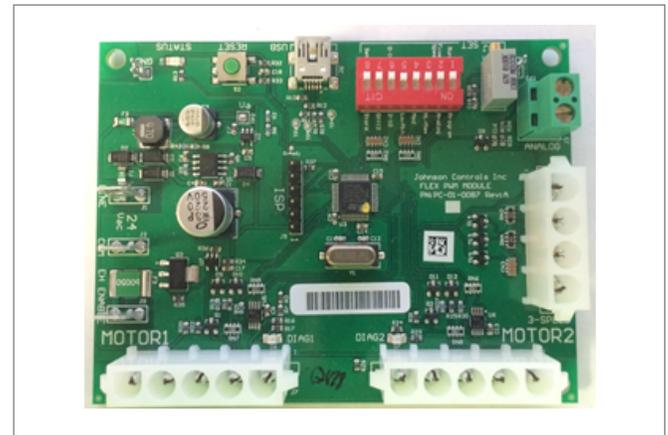

Figure 55 – G3 PWM Board
- a. Locate the G3 PWM board within the control enclosure (See Figure 55).